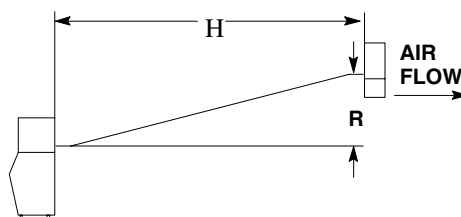

FIGURE 25
- Insert measured rise (R) into the formula and multiply it by 1.7 to get a calculated rise (See Figure 25).